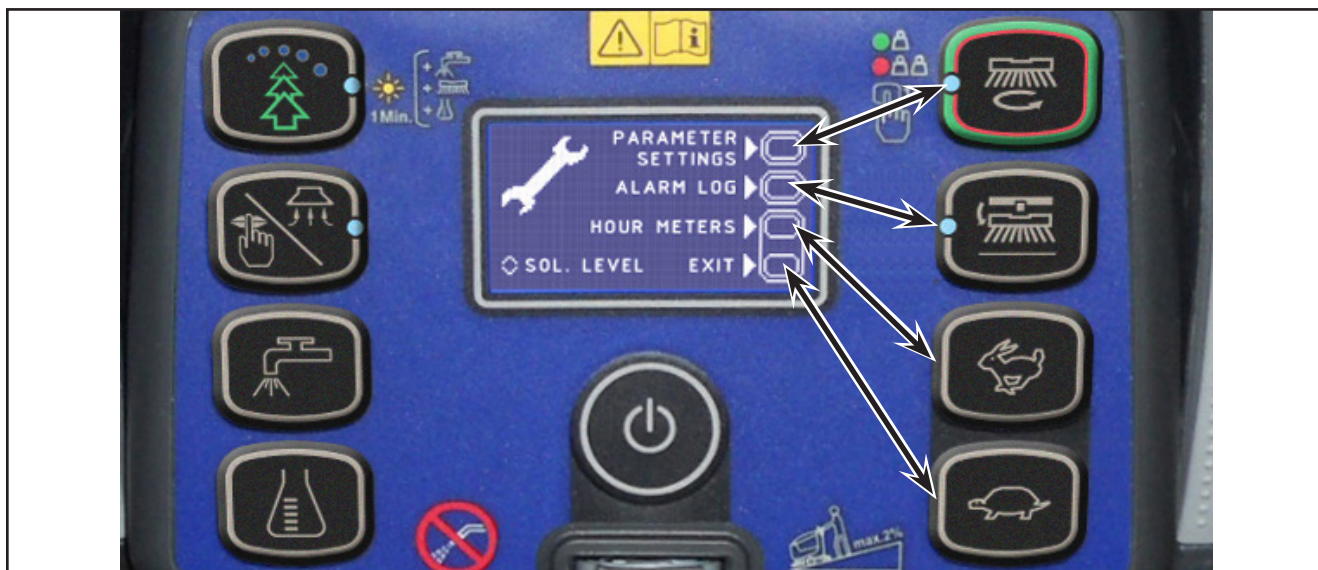

Figure 7:
1. Insert the Super User (yellow) key in place of the operator (grey) key (Figure 6) to access the main screen (Figure 7) of the display.